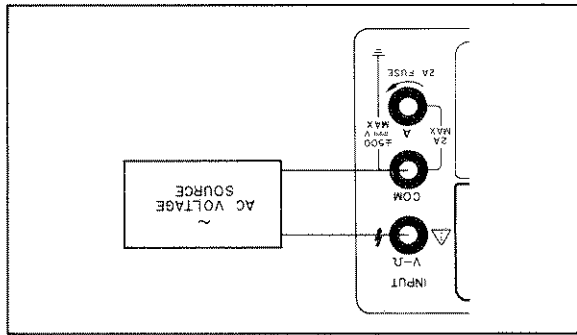

Figure 3-6. AC Voltage Measurement.
- c. Connect test leads from the Multimeter V $\Omega$  (high) and COM (low) terminals to the voltage under test as shown in Figure 3-6.